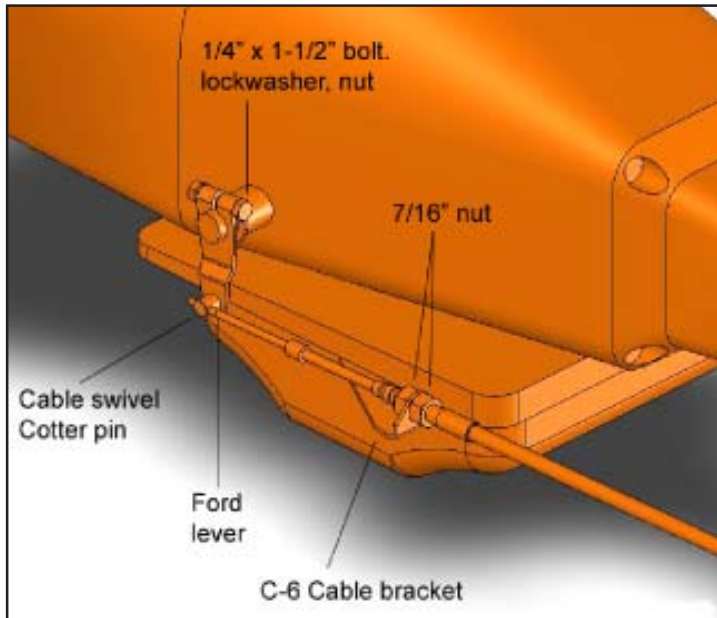

Figure 7
STEP 19. If you have not already done so, loosen the pinch bolt on the throttle lever on the transmission. This is the lever on the small diameter shaft. Pry the lever off with a screwdriver and allow the linkage to hang free. Remove and discard the stock shift lever and the stock shift linkage. Install the **B&M** selector lever in position and tighten the pinch bolt securely (See Figure 7). Make sure the lever is not pushed down so far as to touching the transmission case. This will cause the lever to bind on the case. The lever should travel smoothly from front to back with a positive click in each gear position. Install the stock throttle lever into position on the small diameter shaft as removed and tighten the pinch bolt securely. The throttle lever must operate smoothly.
STEP 20. Remove the two transmission oil pan bolts directly below the shift lever. Install the cable bracket into position with two spacers between the pan and the bracket (See Figure 7). (If your transmission is equipped with a cast aluminum oil pan these spacers can be omitted). Install the two supplied 5/16-18 x